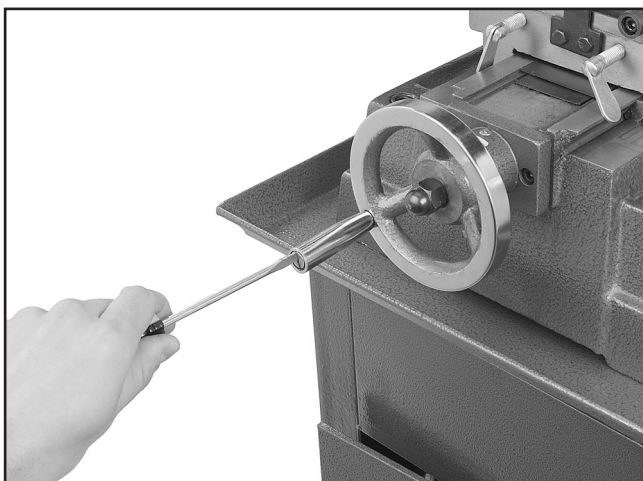

Figure 12. Installing handwheel handles.
7. Thread the handwheel handles into the handwheels, as shown in **Figure 12**.